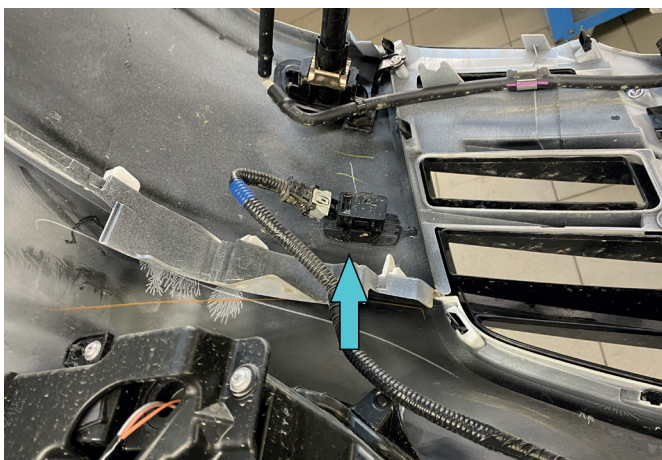

Fig.11
11. Disconnect connector and remove parking sensor as shown in fig.11. Do the same with rest 3 sensors.